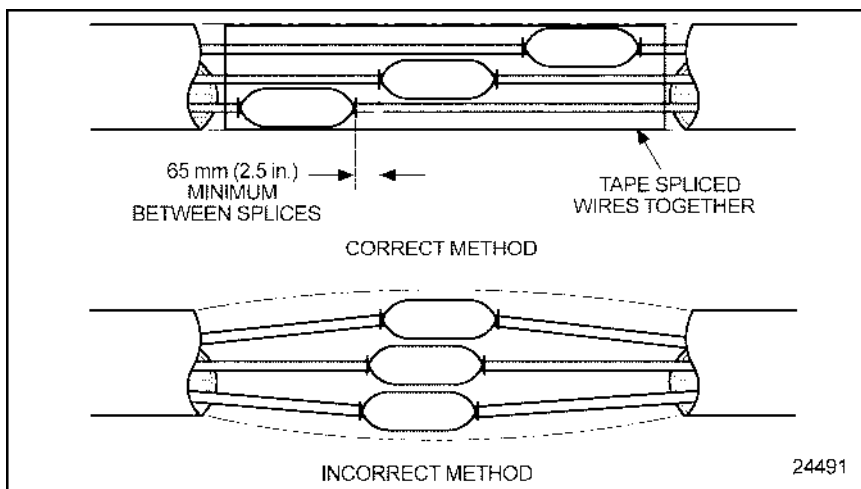

Figure 3-56 The Correct and Incorrect Method of Staggering Multiple Splices
1. Stagger the position of each splice (see Figure 3-56) so there is at least a 2.5 in. (65 mm) separation between splices.